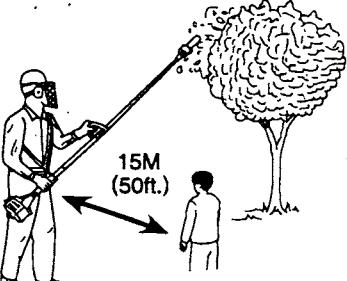

Fig.1-2
- Spectator and fellow workers must be warned, and children and animals prevented from coming nearer than 15M (50ft.) while the pole saw is in use. (Fig.1-2)
- Always wear head protection with full face shield to help protect against falling branches and debris. (Fig.1-2)